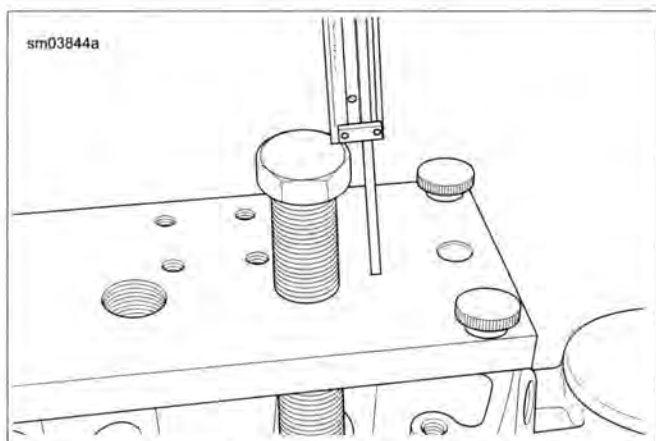

Figure 3-98. Measure from Top of Forcing Screw to Support Plate
11. See Figure 3-98. Once the bearing is at correct depth, measure from head (top) of installer forcing screw to support plate. Record this measurement.